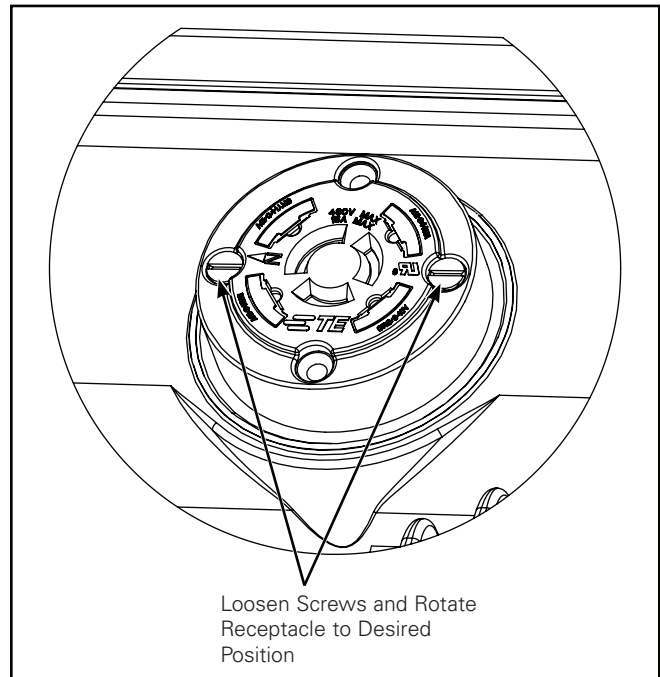

Figure 2. (7-PIN)
#### Tools Required (Figures 2 - 3.)
**Note:** Once receptacle is in desired position, torque the two screws to 25 in-lbs. maximum. (Figure 2 - 3.)